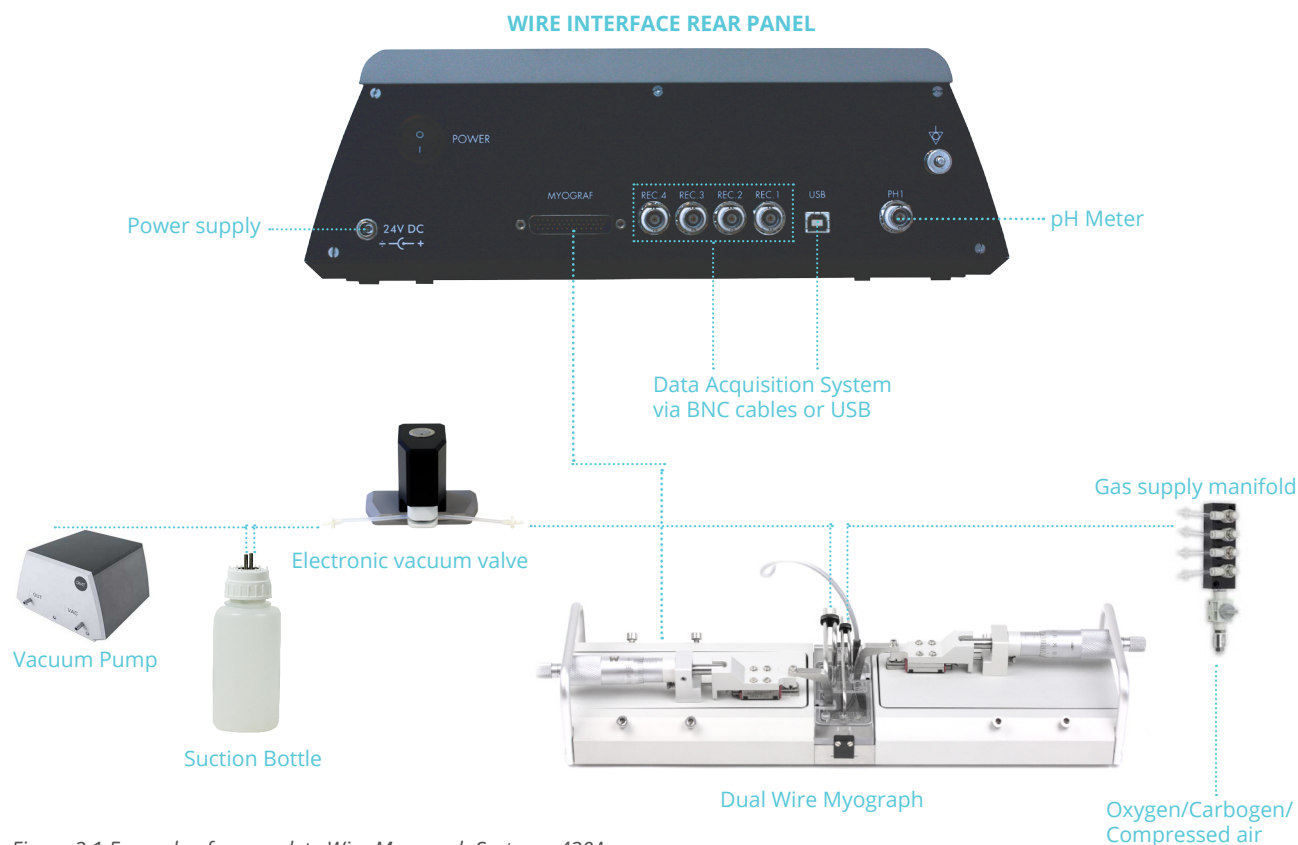
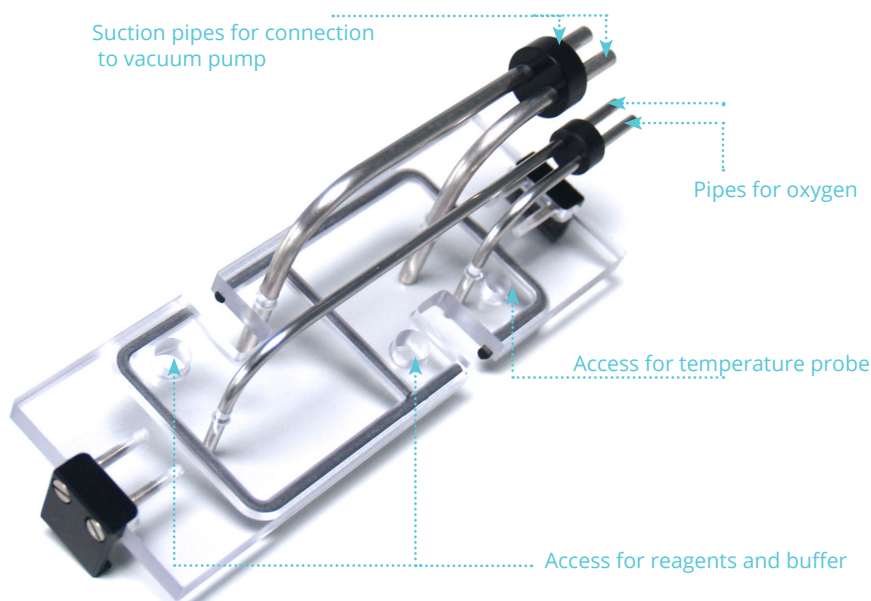

Figure 2.1 Example of a complete Wire Myograph System - 420A
Figure 2.2 Chamber cover for Wire Myograph 420A
Figure 2.1 is a complete set-up for the Wire Myograph System. The set-up includes optional equipment such as pH electrode for measuring pH in the buffer, an electronic vacuum valve, suction bottle, vacuum pump, and a computer and Data Acquisition System.
4. Gas supply: Connect the pipes for gas supply on the Wire Myograph chamber cover (see figure 2.2) to an adjustable gas supply using thin silicone tubing.
5. Suction connection: Connect the suction pipes on the Wire Myograph chamber cover (see figure 2.2) to a vacuum pump via a suction bottle and the electronic vacuum valve as illustrated in figure 2.1.